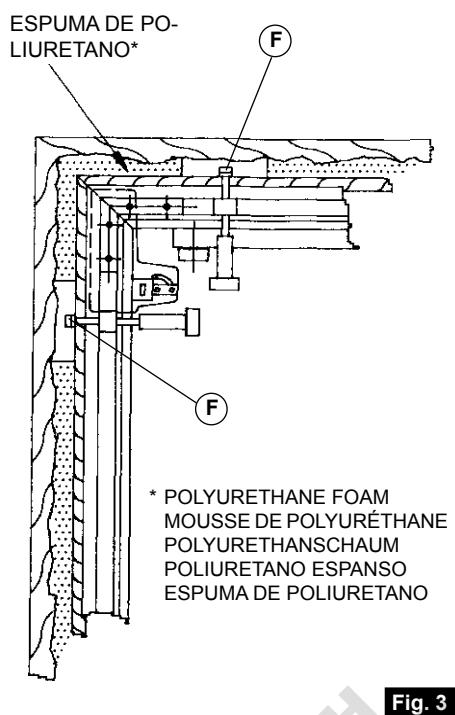

Fig. 3
6.- Fill the existing openings with polyurethane foam to secure it in place, making sure that the clamps "F" are left free. (Fig. 2 and Fig. 3)